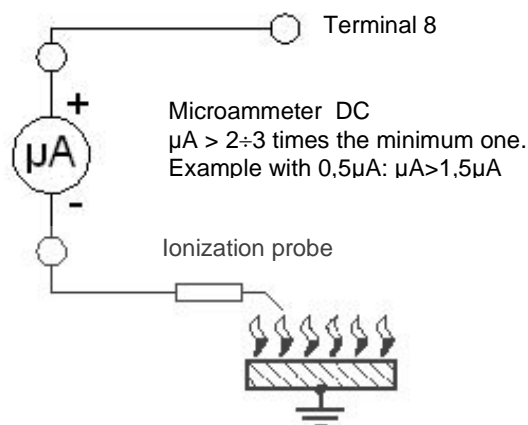

Fig. 5 – Flame signal measurement method in gas versions.
- the level of the flame signal is high enough (for flame signal test see figure 5 and 6);